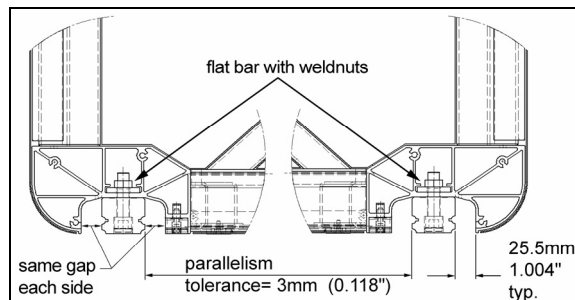

FIGURE 24 : RAIL POSITIONING
The rail is bolted to a flat bar on which weldnuts are mounted. The flat bar is inserted in the slide-out lower body extrusion and can be removed through the end cap (FIGURE 24).
8. Adjust the rail position with as per FIGURE 24. For each rail, make sure the gap is the same both side of the rail.